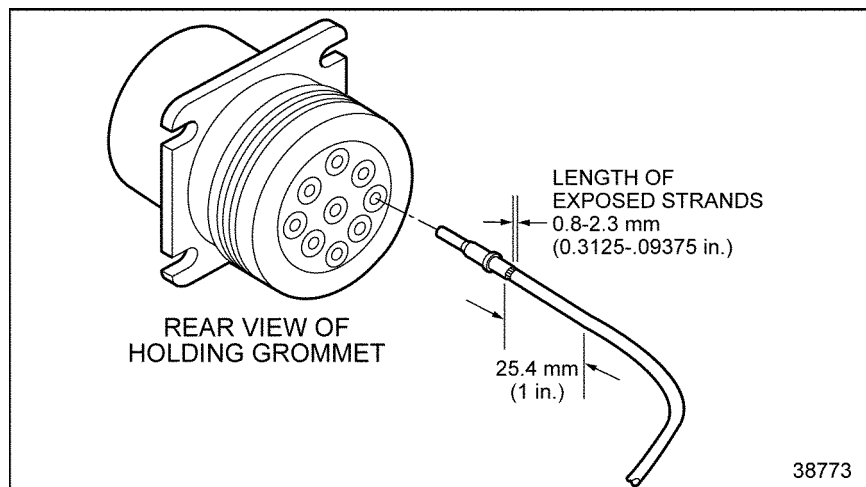
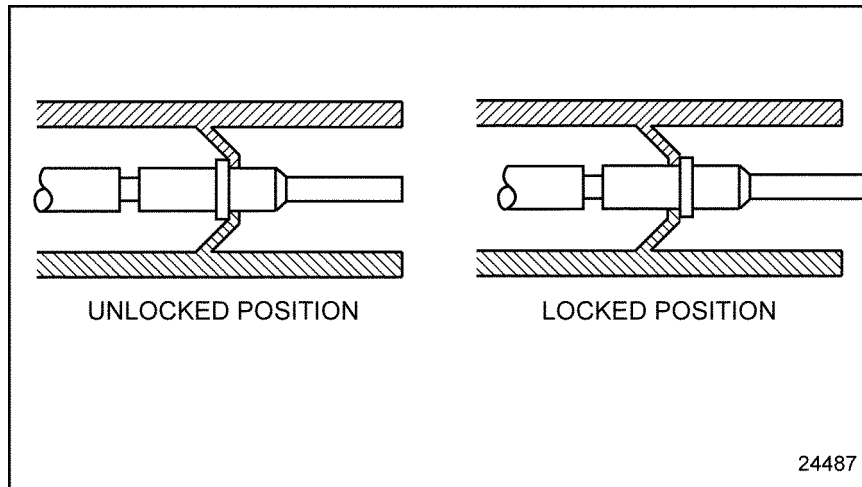

Figure 3-12 Pushing Contact Into Grommet
Figure 3-13 Locking Terminal Into Connector
5. Grasp the contact approximately one inch behind the contact crimp barrel. Hold the connector with the rear grommet facing you. See Figure 3-12.
6. Push the contact into the grommet until a positive stop is felt. See Figure 3-12. A slight tug will confirm that it is properly locked into place. See Figure 3-13.